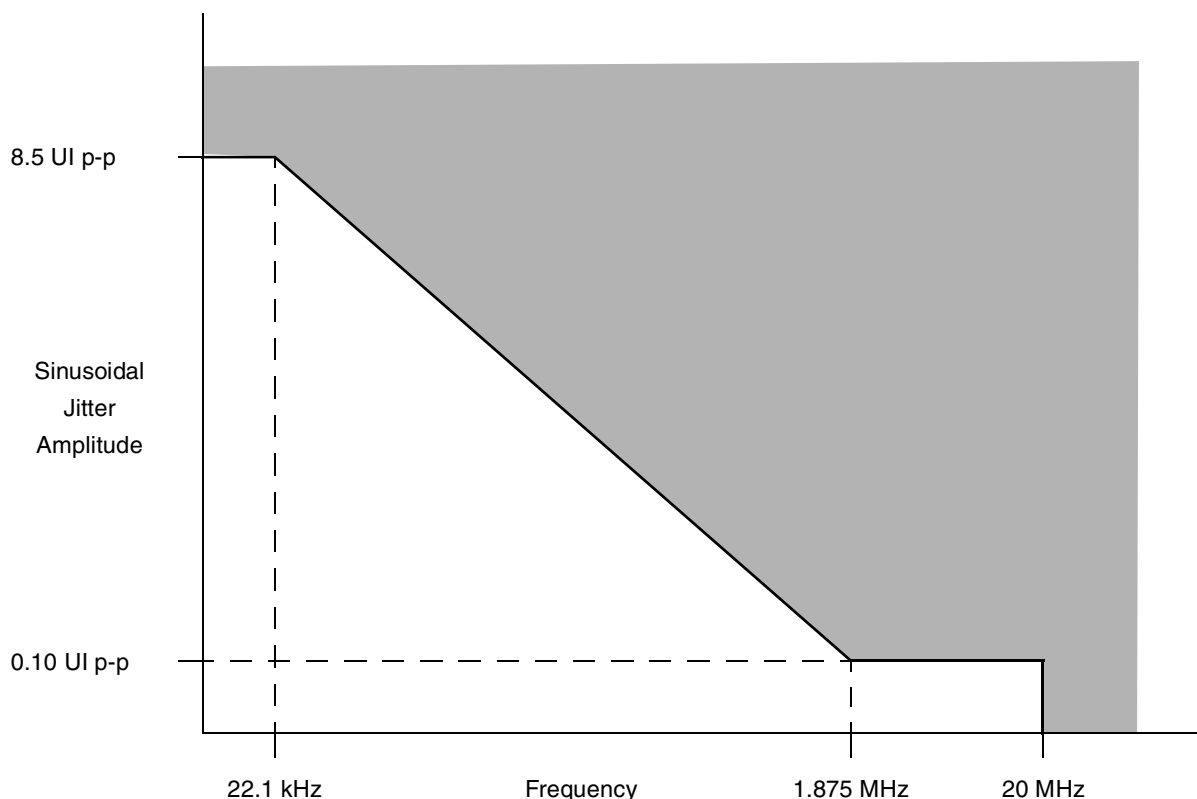

Figure 43. Single Frequency Sinusoidal Jitter Limits
2. See Figure 43 for single frequency sinusoidal jitter limits.